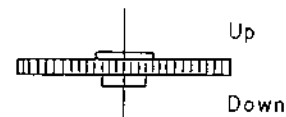
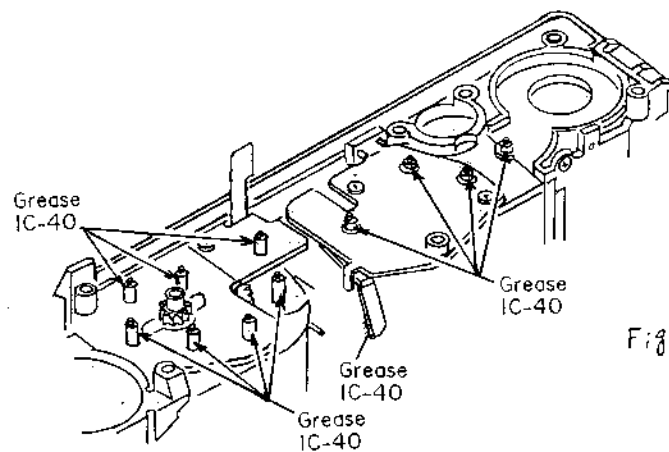

Fig 28
Fig. 29
- a) Do not mistake the top and bottom sides of the MM Gear (7) (3AQ62101). (See Fig.28)
- b) Do not mistake the MM Gear (8) (3AQ62201) (black) and MM Gear (9) (3AQ62303) (white) for each other. Confusion may result in heavy rewinding
- c) Apply Grease I-40 to the bearings of the Gears. (See Fig.29)